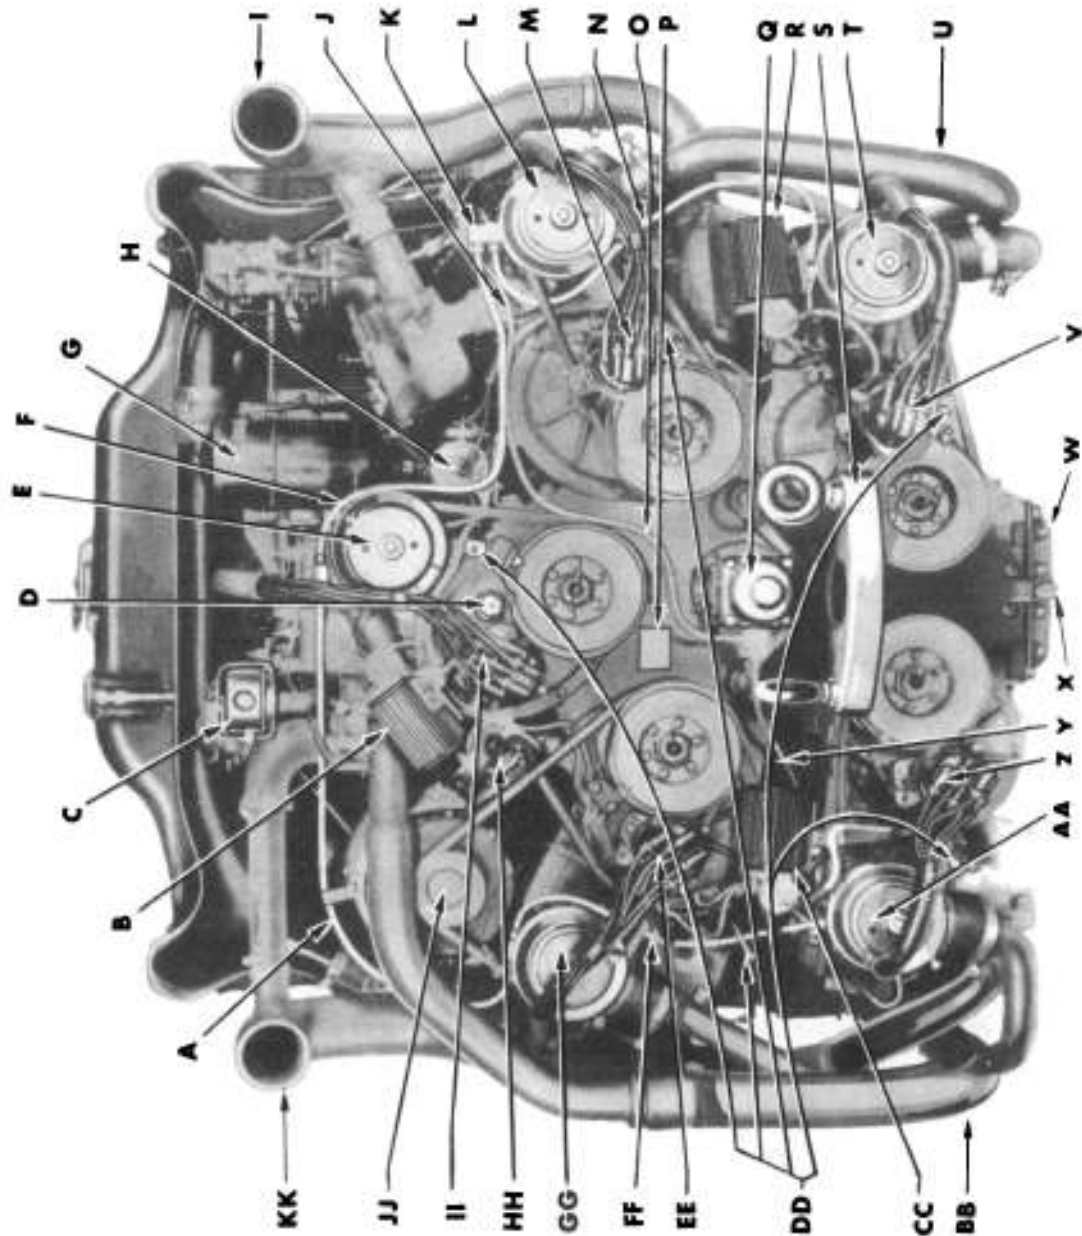

Figure 1 — M3A4 Power Unit, Distributor End
a. Power units are numbered serially. All power units used in the Medium Tank M3A4 and in medium tanks with serial numbers M4A4-1001 to M4A4-2304 inclusive, incorporate multiple water pumps, one mounted on each engine (figs. 1 and 2). Power units of the Medium Tank M4A4 with serial numbers following M4A4-2304 incorporate a single water pump (mounted on the distributor end of the crankcase (fig. 3). On power units equipped with multiple water pumps, the generator is mounted on No. 2 engine and driven by the No. 2 engine water pump belt (fig. 1). The fuel pump is mounted on the distributor end of the crankcase and driven by the accessory shaft (fig. 1). On power units equipped with the single water pump, the generator is mounted in the fighting compartment and belt driven from the propeller shaft. The fuel pump is mounted on the distributor end of No. 4 engine and driven by the camshaft (fig. 3). Power units of Medium Tank M4A4 with serial numbers M4A4-1001 to M4A4-3211 inclusive, are equipped
Legend For Figure 1 — M3A4 Power Unit, Distributor End